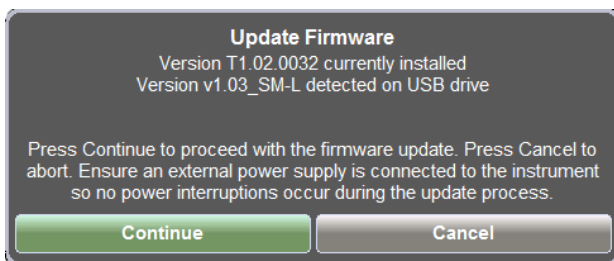

Figure 9-8. Update Firmware Message
5. Press the **Preset** (9) key.
6. Under the **Reset** submenu, press **Update Firmware**. The Update Firmware dialog (**Figure 9-8**) appears.